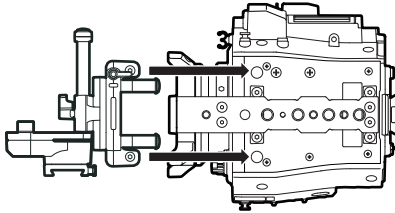

Fig. 1
- 1** Attach the slider unit to the viewfinder mounting holes on top of the camera module using the two supplied screws. (Fig. 1)